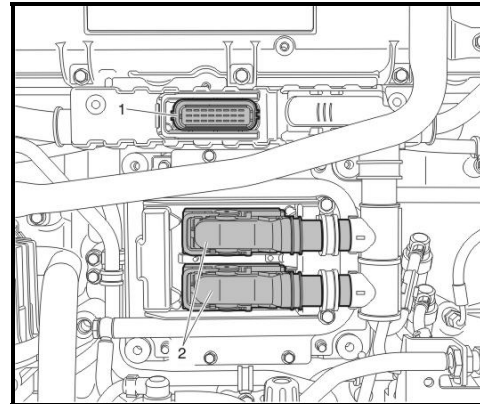

FIGURE 12
14. Disconnect the ECM and vehicle harness connections (fig. 12). Remove all nylon cable ties and P-clamps.